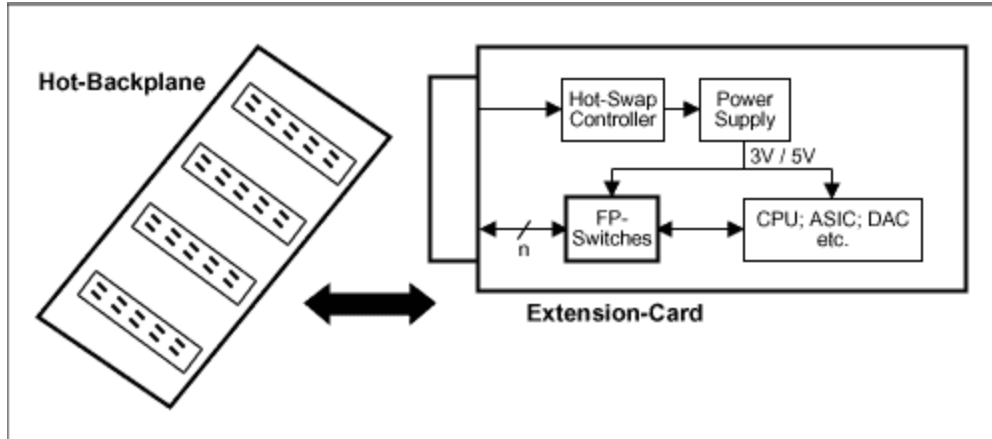

Figure 7. Hot-swapping backplane signals.
Low-voltage, fault-protected switches between sensitive parts and the backplane connection (**Figure 7**) give the required over-voltage protection. The switches maintain their COM outputs in a high-impedance state until the card's supply voltage comes up and closes the switch connection to the backplane. The switch's protected (NO) inputs face the backplane, giving  $\pm 12\text{V}$  protection while power is off, and also protecting the card against overvoltage from the backplane when supply voltage is present. Note that the popular logic-bus switches from various vendors do not provide this sort of protection. They provide a higher allowable value for latch-up current than do standard CMOS parts, but they do not withstand continuous overvoltage.